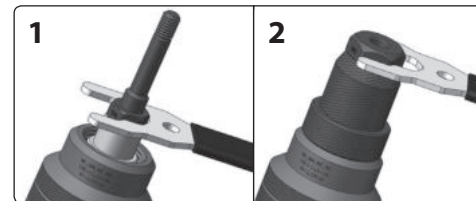

Fig. 3
- Into the rivet adapter, screw in the rivet attachment with a nut, step 1 and 2 according to fig. 3.** The rivet attachment consists of two parts (threaded central axle and a top nut - see fig. 3). The size of the rivet adapter needs to be selected according to the size of the rivet nut. The size and length of the rivet nut must be selected to respect the diameter and depth of the pre-drilled hole and the material being joined, otherwise the material being joined will not be joined properly. The size of the rivet nut must correspond to the marking on the rivet attachment in the form of the marking, e.g. M5... Then tighten the rivet attachment using the supplied wrench (fig. 3, step 2).